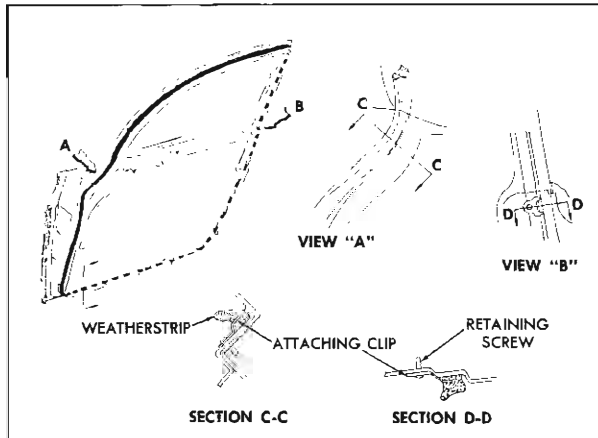

Fig. 3-34 Weatherstrip Attaching Clip
2. Some weatherstrips may be additionally secured by a two-prong clip, attached to lock and/or hinge pillar of door at belt line. This clip is attached by a single screw and must be removed prior to removal of weatherstrip. When clip is reinstalled, make sure both prongs are positioned over wire located in center of weatherstrip. Figure 3-34 shows clips attached to a front door weatherstrip but is typical of rear doors. This clip can be satisfactorily used to retain almost any area of a rear door weatherstrip that proves troublesome (see Fig. 3-34).
6. Press weatherstrip into place at cemented areas and, if applicable, reinstall weatherstrip two-prong attaching clip. Make sure prongs of clip are inserted over wire of weatherstrip (see Fig. 3-34).